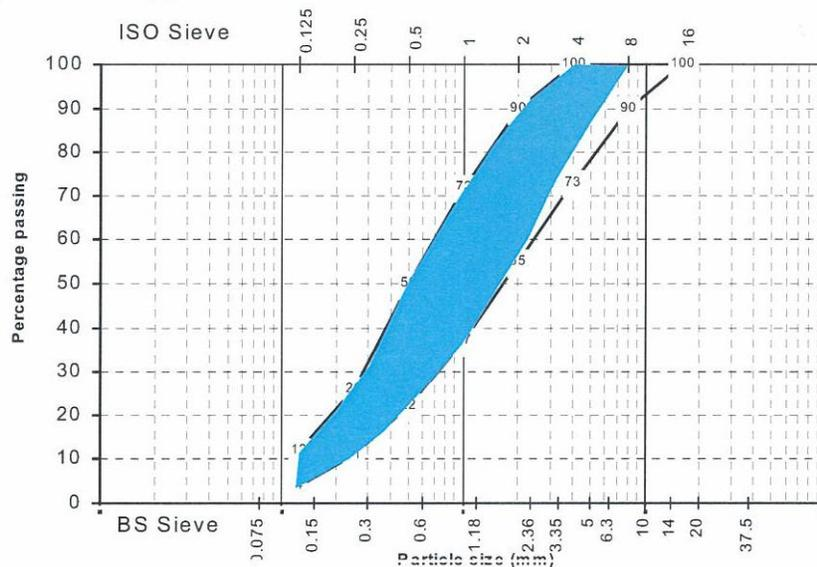

Figure 1: Combined grading for sprayed concrete
- Establish an optimal combined grading of the sprayed concrete aggregates. If possible choose a maximum aggregate size of between 4 and 8mm as indicated in Figure 1 (blue envelope).